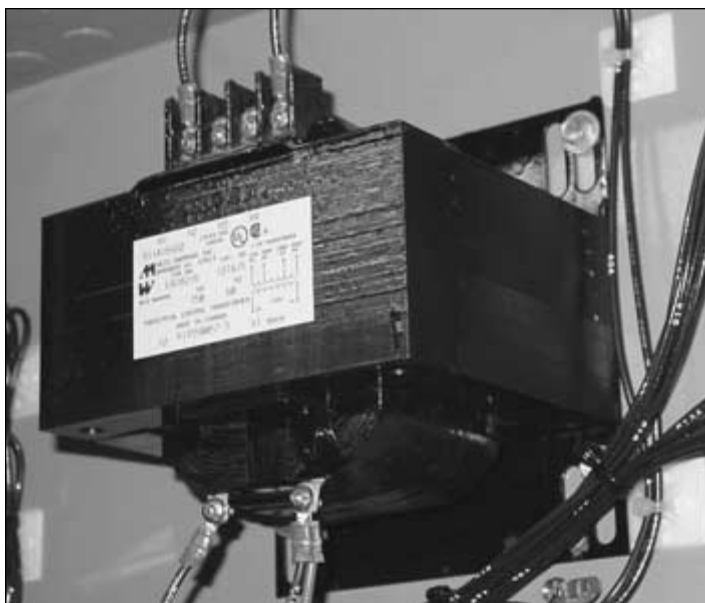

FIGURE 9.15 750 VA Transformer.
Transformers come in a wide variety of sizes, from the very small (as used in control systems) to very large (to drop kilovolt line voltages down to the 480 or 120 VAC used in the building). Transformers are rated according to their maximum power-handling capacity. This value is given in volt-amperes (VA). A typical low voltage transformer used for an actuator might have a rating in the 100 VA range (Figure 9.15) while a large, whole-building transformer is in the 1000 kVA range or larger (Figure 9.16).